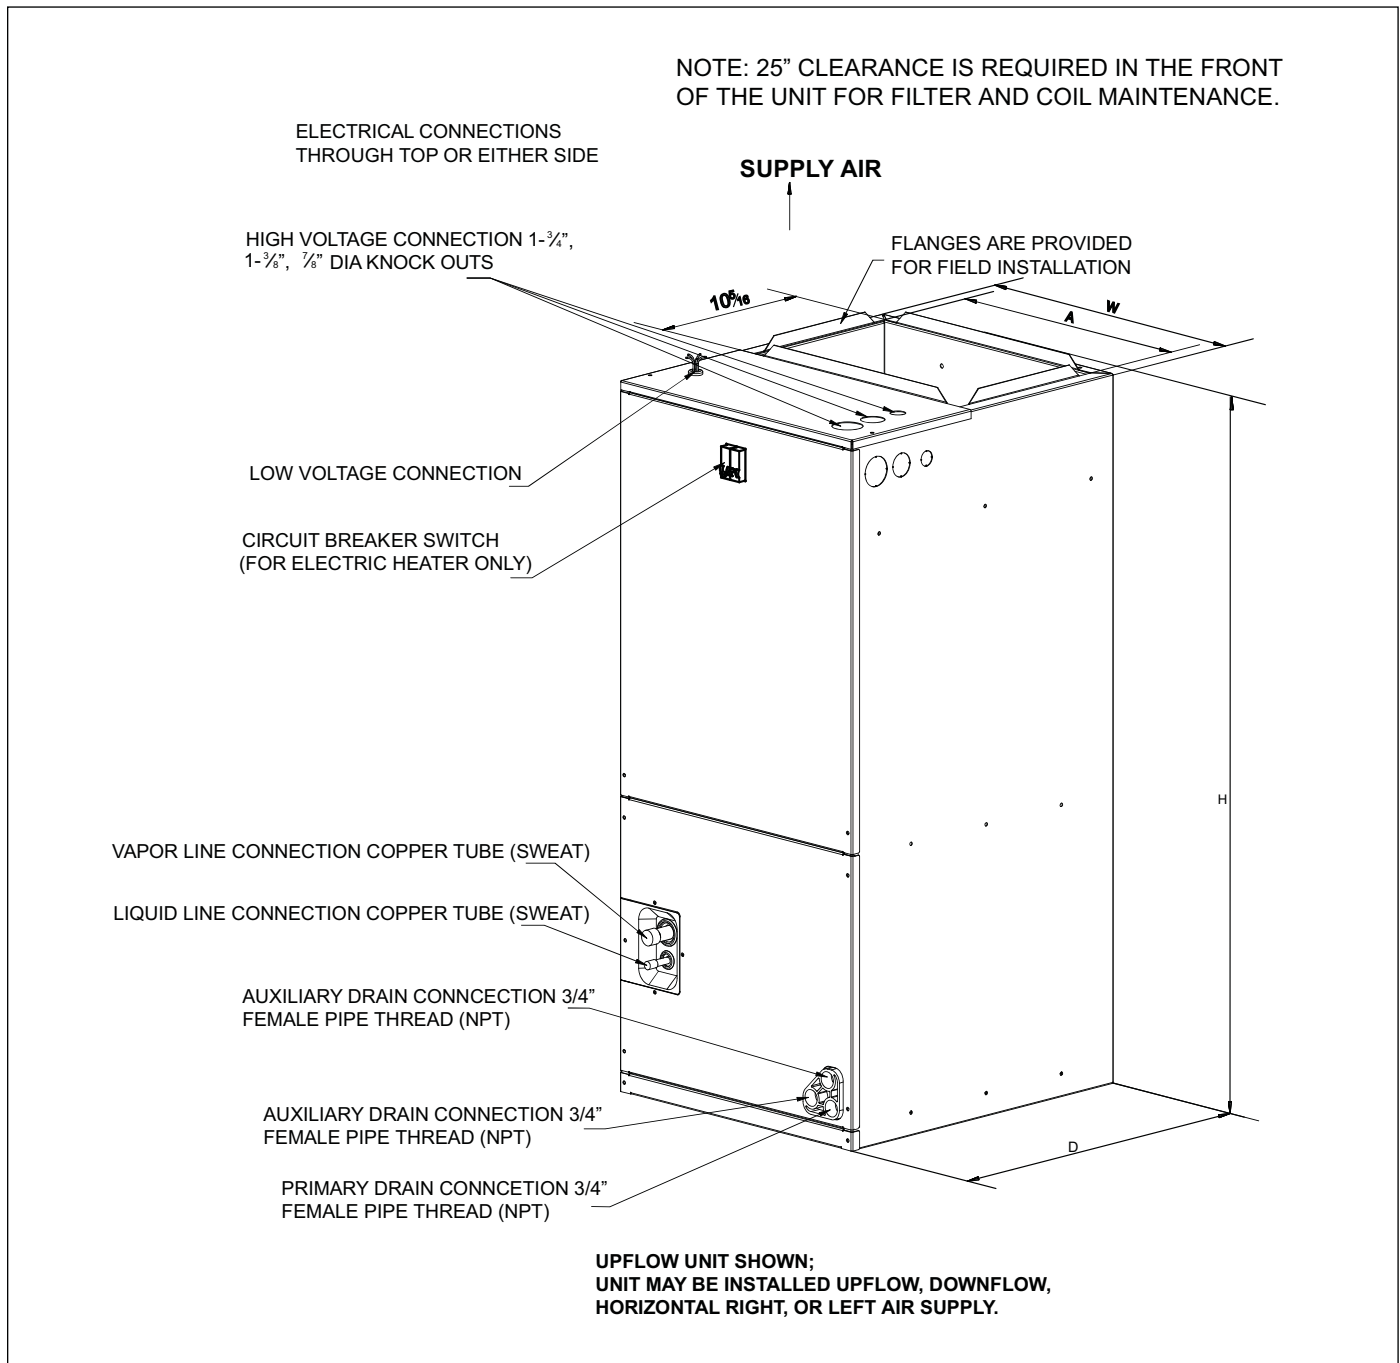

Figure 3
Top and side power and control wiring, accessible screw terminals for control wiring all combine to make the installation easy, and minimize installation cost. See fig.3.
- ▶ Vertical Upflow configuration is the factory default on all models (see Fig 3).
Lightly tighten the drain connections so they do not leak. Using excessive force may/will cause damage to the unit. (see Fig.3&4)